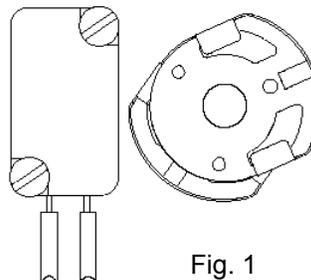

Fig. 1
I. Valve Closed to Open in counter-clockwise rotation (See Fig. 1 below):